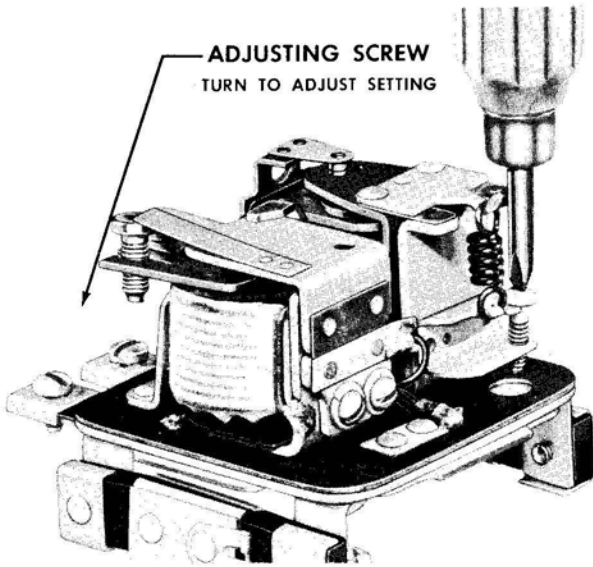

Figure 16—Adjusting voltage setting of current-voltage regulator unit (1118300 and 1118700 series).
**VOLTAGE SETTING (1118300 and 1118700 Series)**—Check voltage setting as described under Regulator Electrical Checks. Adjust voltage setting by turning adjusting screw (Fig. 16). Turn screw clockwise to increase voltage setting and counterclockwise to decrease voltage setting. After each adjustment, set cover in place before checking setting.